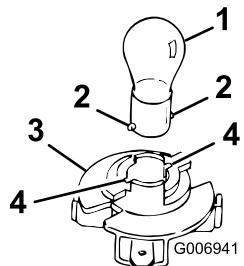

Figure 53
4. Insert and rotate the bulb counterclockwise until it stops (approx. 1/4 turn), and remove the bulb from the bulb holder (Figure 53).
2. Insert the base into the holder (Figure 53).